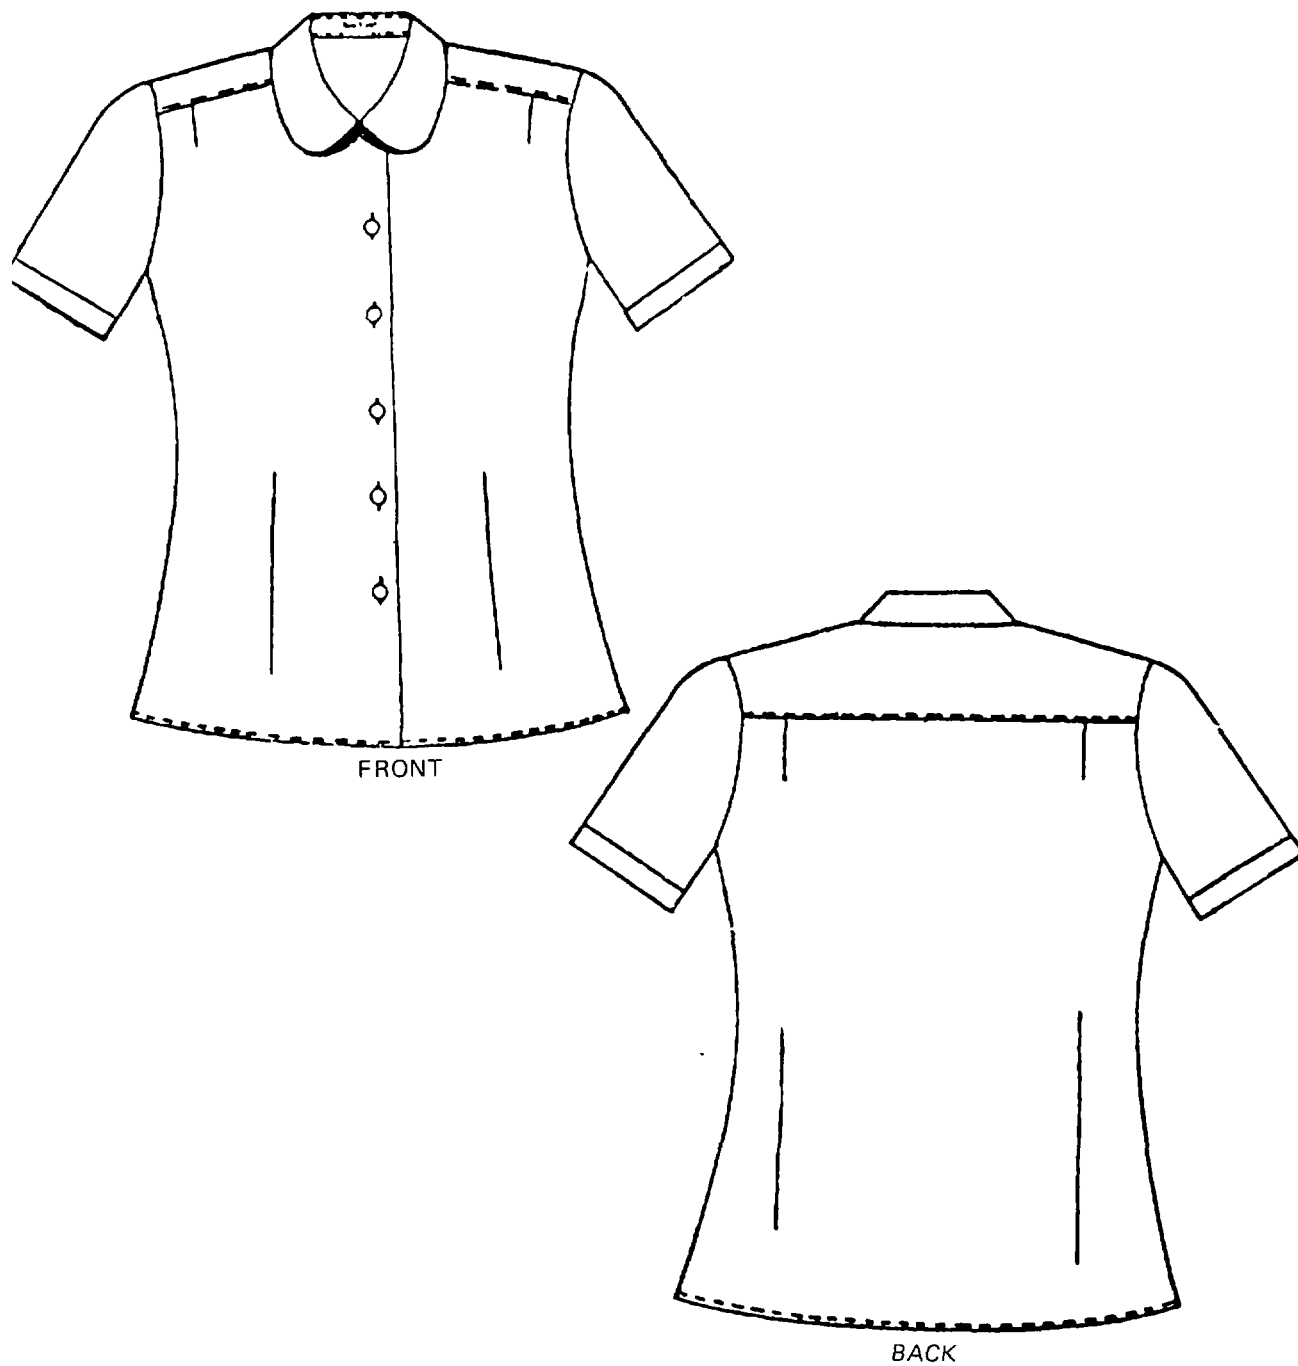

Figure 19-1. Women's Polyester/Cotton Shirt, Bleached White.
- a. Shirt Woman's, Short Sleeve, Polyester/Cotton Broadcloth, Bleached White, Conforming to Type I Class IV The shirts are fabricated from polyester/cotton Broadcloth Bleached White, conforming to Type I Class IV of MIL-C-43479 The shirt is hip length, short sleeve, semi-fitted, with one piece back-to-front yoke and a collar with rounded ends and collar tabs. (See figure 19-1 and table 19-1 )